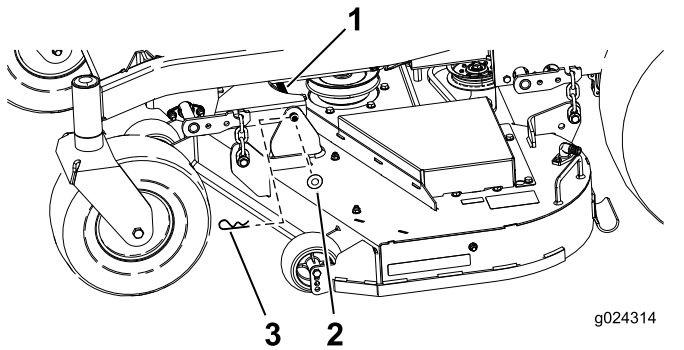

Figure 68
1. Remove the hair pin cotter and washer securing the long, link pin to the frame and deck; remove the link bar (Figure 68).
9. Secure the link pin with the hair pin cotters and washers removed previously (Figure 68).